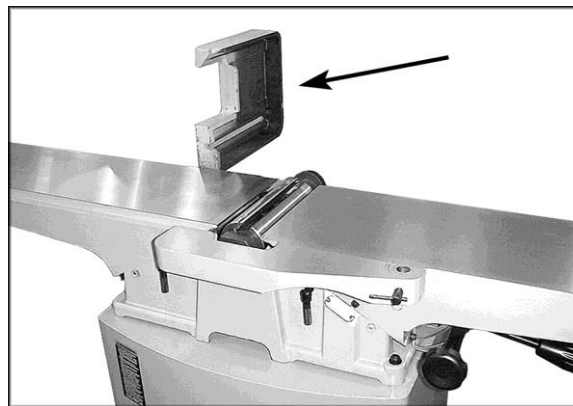

Figure 38
6. Loosen the two socket head cap screws on the fence support and pivot the fence support out of the way (see Figure 38).